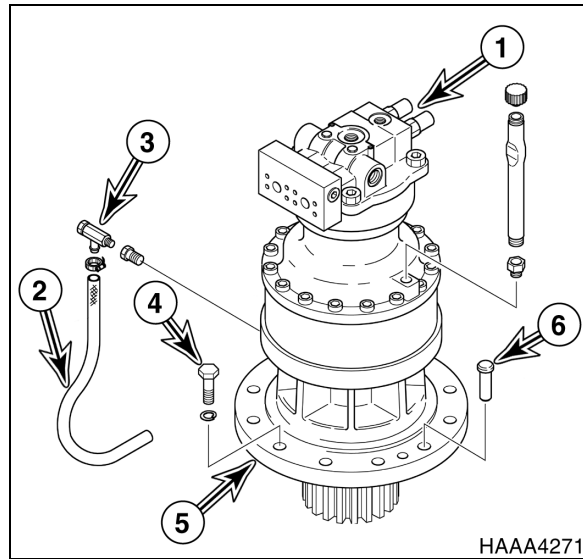

Figure 8
11. Tag and disconnect hoses from swing motor (1, Figure 8). Plug and cap hoses and ports to prevent contamination from entering hydraulic system or component.
12. Disconnect tube (2, Figure 8) from drain valve (3).
13. Disconnect grease lubrication line (not shown) from reduction gearbox (5, Figure 8).
14. Remove eleven bolts and washers (4, Figure 8) holding swing reduction gearbox (5) to frame.
15. Using a suitable lifting device, sling swing motor (1, Figure 8) and remove swing motor and reduction gearbox (5) as an assembly from unit.
NOTE: A drain valve (3, Figure 8) and tube are on side of gearbox. Be careful not to damage valve or tube.
NOTE: There is one alignment pin (6, Figure 8), on side of reduction gearbox flange.